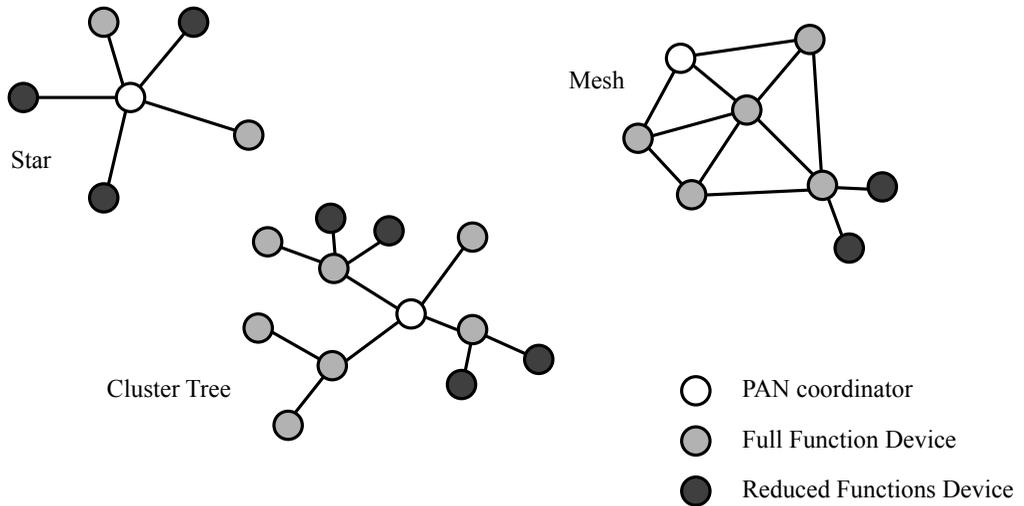

Figure 4.1
- ❑ ZigBee™ Coordinators can create three different kind of networks; Star, Cluster Tree or Mesh networks (figure 4.1):
- ❑ A beacon frame is originated by the PAN coordinator and is used to synchronize all nodes in the network. A command frame is used by frames to help create the networks shown in Figure 4.1, and will not be covered in this tutorial. Data and ACK frames will be covered extensively in the next few chapters.